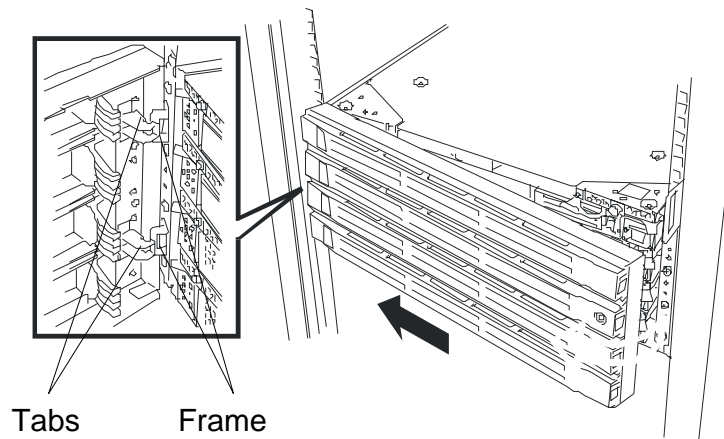

Figure 4-3. Opening the Front Bezel (Rack-mount Model)
3. Detach the bezel from the main unit by sliding it to the left a little to disengage the tabs from the frame. See Figure 4-3.